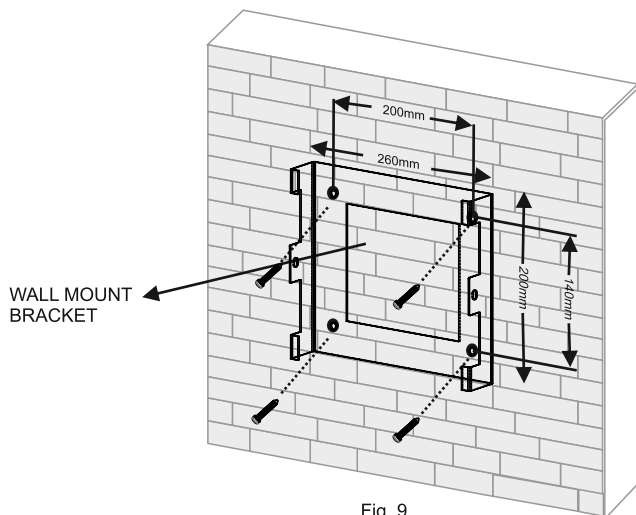

Fig. 9
Step 1: Drill four holes on wall at distance of inverter mounting position as shown in fig. 9 & insert self tapping screw in holes.